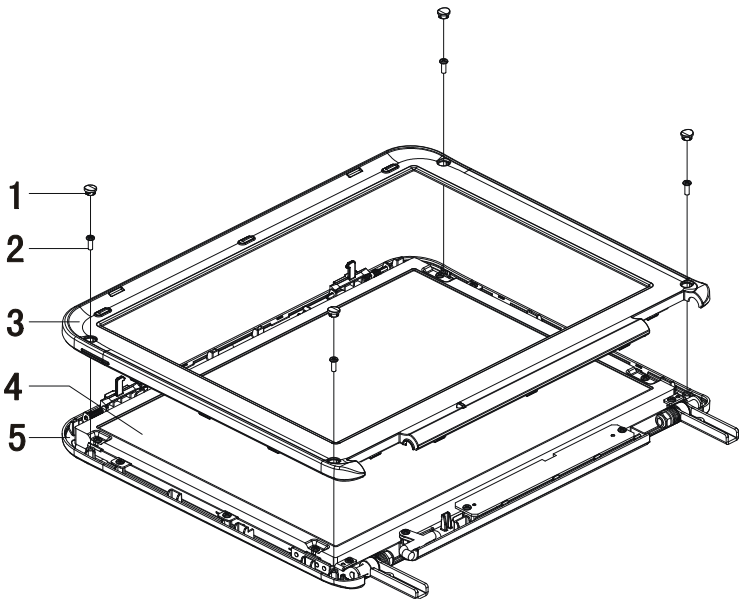

Figure 4-6 Removing Display Front Cover
- 5) As shown in Figure 4-6, take out the display screw caps, remove four M3×8 screws, and take out the display front cover from the back cover.